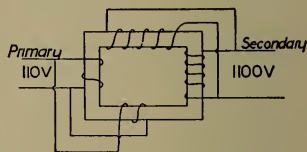

FIGURE 216.— 110 VOLTS TRANSFORMED TO 1100 VOLTS.
2. If the primaries are connected in parallel and the secondaries in parallel, the voltage will be  $\frac{10}{1} \times 110 = 1100$ . (Figure 216.)